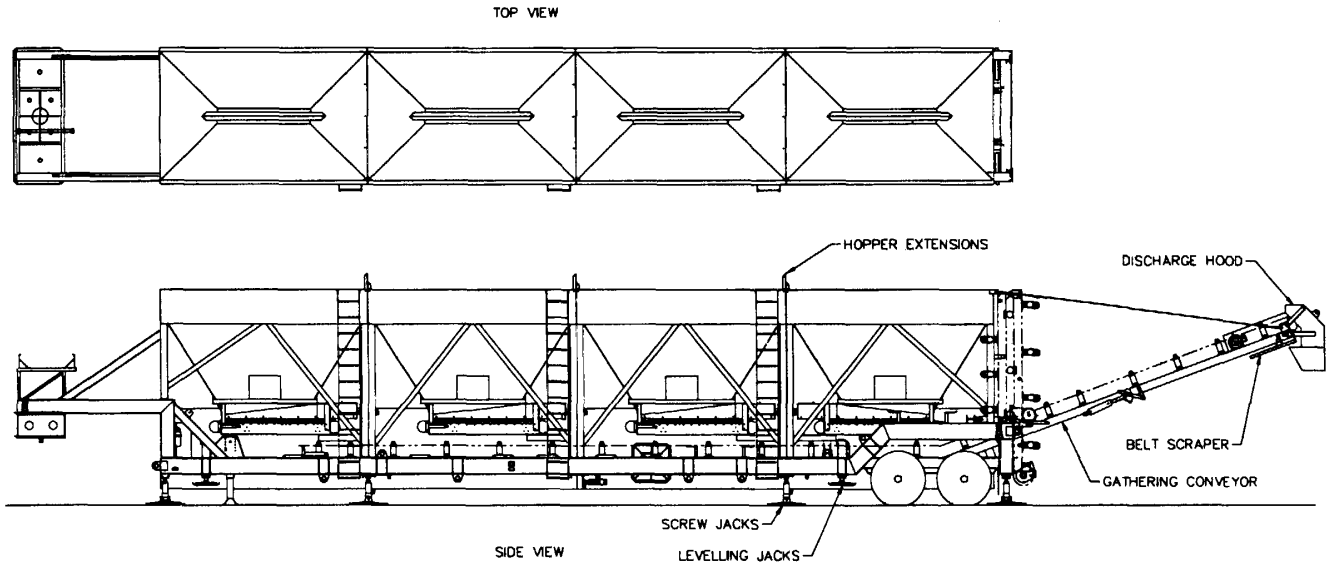

Figure 2-24 Four Bin Feeder
**(See Figures 2-24, 2-25, 2-26, 2-27 and 2-28)**